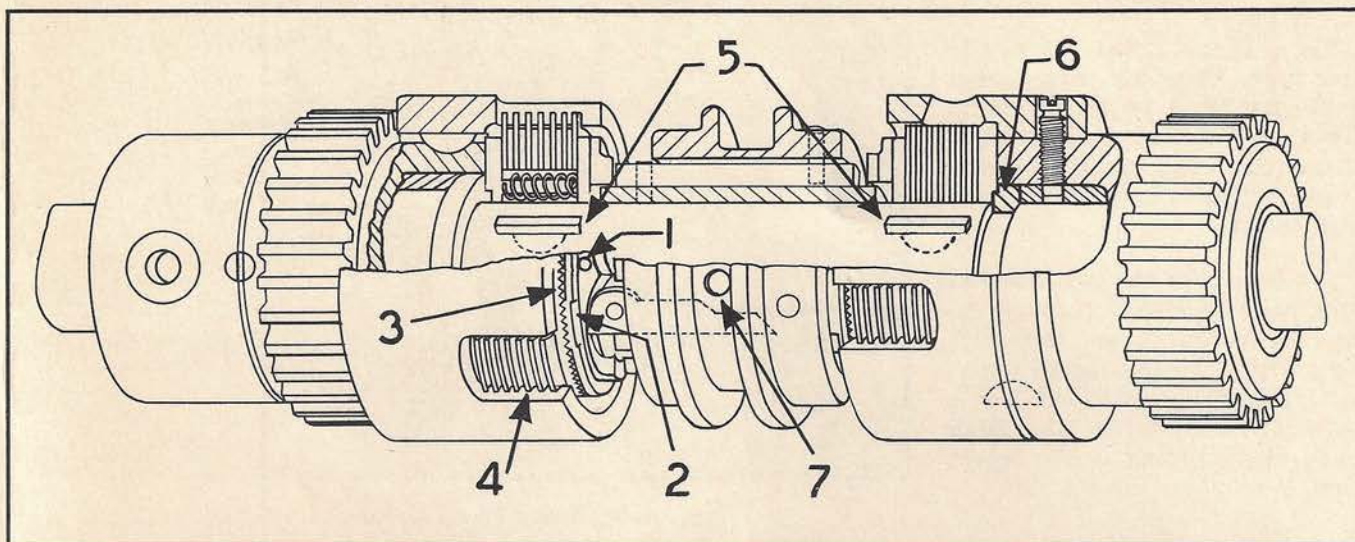

Fig. 12. The "Pullmore" Clutch
It is important that these disc clutches be in proper adjustment because a slipping clutch will wear rapidly. To adjust the clutches, stop the drive pulley. Place the clutch operating handle in neutral, bring slots (4) Fig. 12, and serrated block (3) to the top so they are approximately in line. This will bring hole (1) to the top. Insert a $\frac{1}{8}$ " pin in hole (1) and pry sideways to push block (3) and disc (2) apart until the teeth can slide past each other.
To Take "Pullmore" Clutches Apart Fig. 12
2. Drive out spool center pin (7) Fig. 12.
4. Compress entire double unit in arbor press or in vise until split collar (6) Fig. 12, on shaft is completely exposed. Remove the latter and one set of discs.
5. Three hardened keys are now exposed which must be removed from the shaft. These are of special shape (5) Fig. 12, and can be withdrawn by gripping each one firmly in a vice and then striking the shaft with a babbitt hammer.